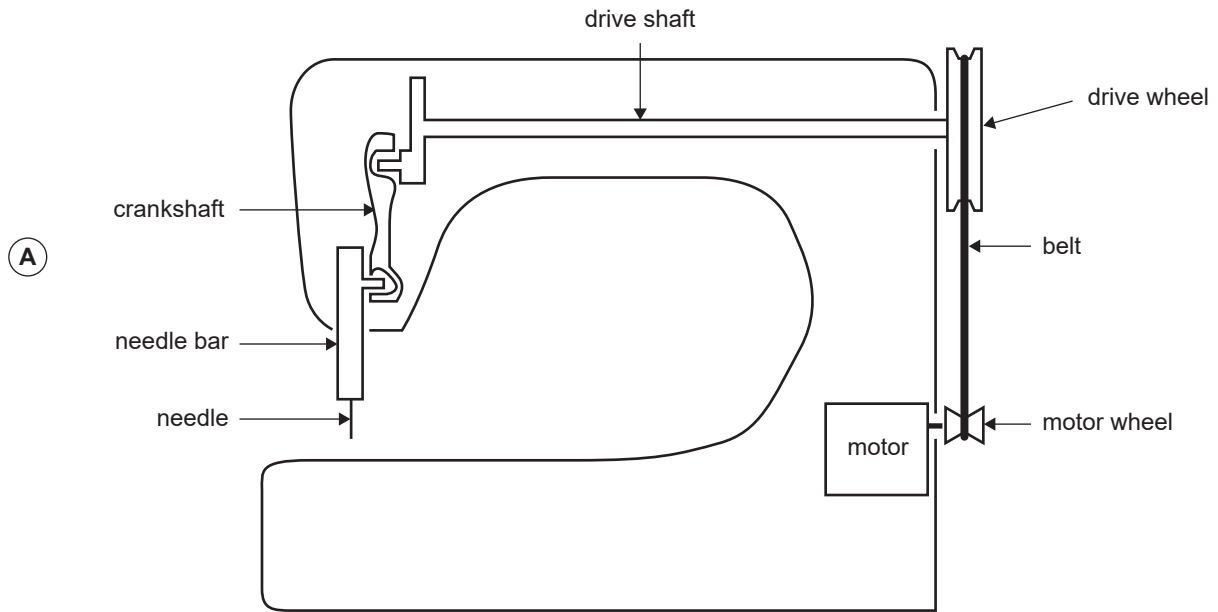
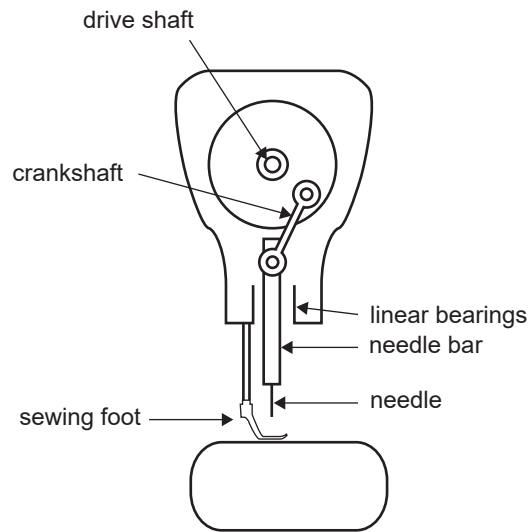

Figure 12
Figure 13
Figure 12 shows a cross-sectional front view of a sewing machine. The sewing machine uses a belt to connect the motor to the drive wheel, as shown.
- c. Figure 13 shows a cross-sectional view looking from point A in Figure 12 directly at the crankshaft.
Using the additional information provided in Figure 13, explain how the rotational movement of the motor is transformed into the reciprocating motion of the sewing needle.